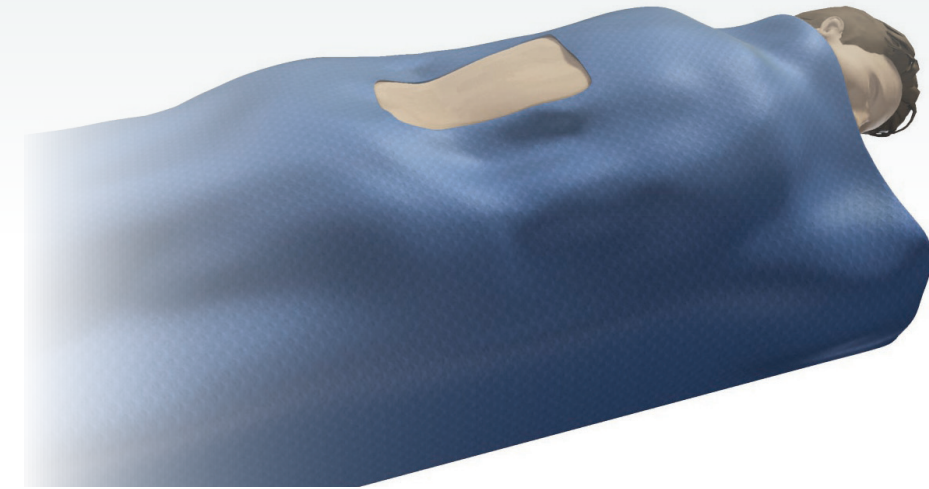

Figure 1
- Place the patient in the prone or knee-chest position on a radiolucent operating table. Adjust the table (as needed) so that the C-Arm provides true A/P images when at 90° and true lateral images at 0° (Figure 1).